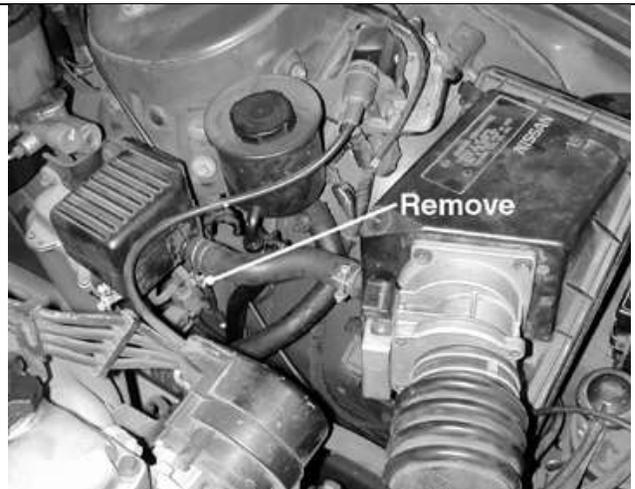

Fig. 5
- h. Loosen the hose clamp on the EGR hose. (Fig. 5)